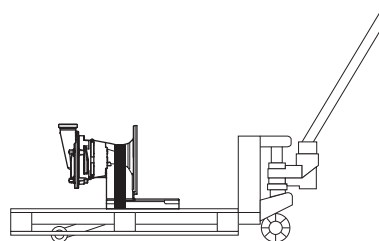

Fig. 40 Moving with pallet truck
- Ensure that the pump is adequately secured to the pallet, for example, with straps; see Fig. 40, "Moving with pallet truck," page 29.